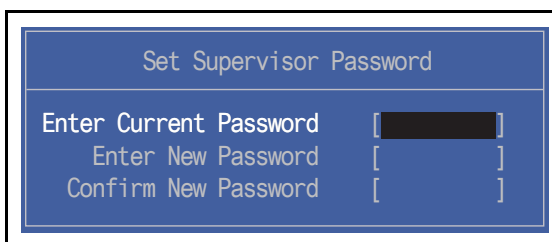

Figure 2-7. Removing a Password: Set Supervisor Password
1. Use the \uparrow and \downarrow keys to highlight `Set Supervisor Password` and press **Enter**. The `Set Supervisor Password` dialog box is shown. (Figure 2-7)